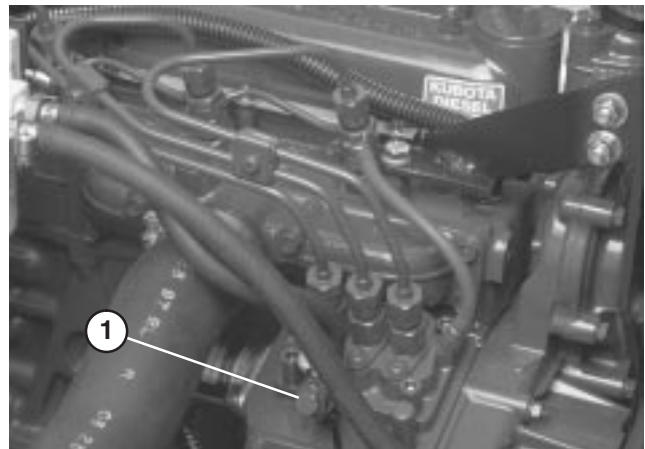

Figure 31
4. Open the air bleed screw on the fuel injection pump (Fig. 31) with a 12 mm wrench.